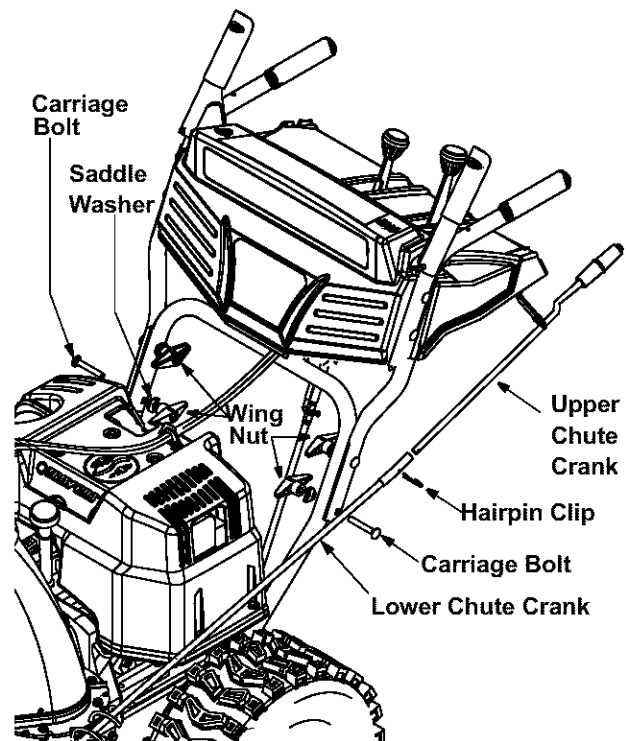

Figure 2
- Remove the **lower** plastic wing nut, saddle washer and carriage bolt from each side of the lower handle. See Figure 2.
- Secure the upper handle and lower handle with the two plastic wing nuts, saddle washers and carriage bolts previously removed. Attach these hardware on the lower hole in the handles. See Figure 2.
- Tighten the two wing nuts already in place on the upper holes and secure the handles firmly. Slide the shift rod connector down over the end of the lower shift rod. Tap the connector until it **locks** over the lower shift rod. See Figure 2.
- Align the two holes on both chute cranks and insert the hairpin clip removed earlier, through these holes. See Figure 2.